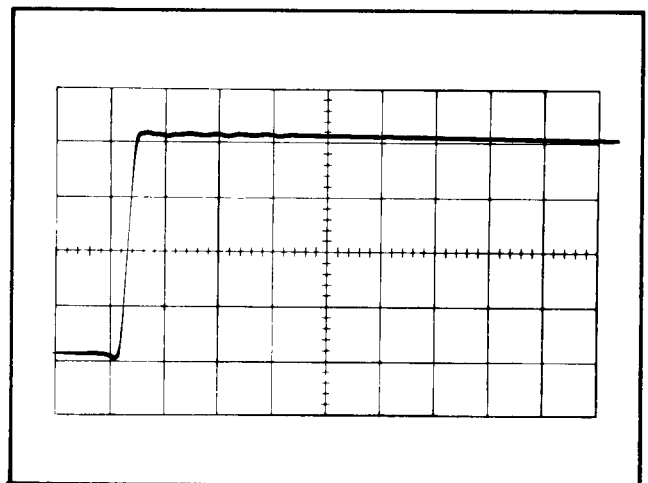

Fig. 5-2. Correctly compensated waveform.
f. CHECK—Displayed waveform; less than 5% of overshoot, rounding, tilt, or peak-to-peak ringing (see Fig. 5-2).